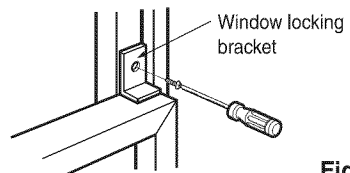

Fig. 9
9. Attach the Window locking bracket with a screw (Type C.) (See Fig. 9)